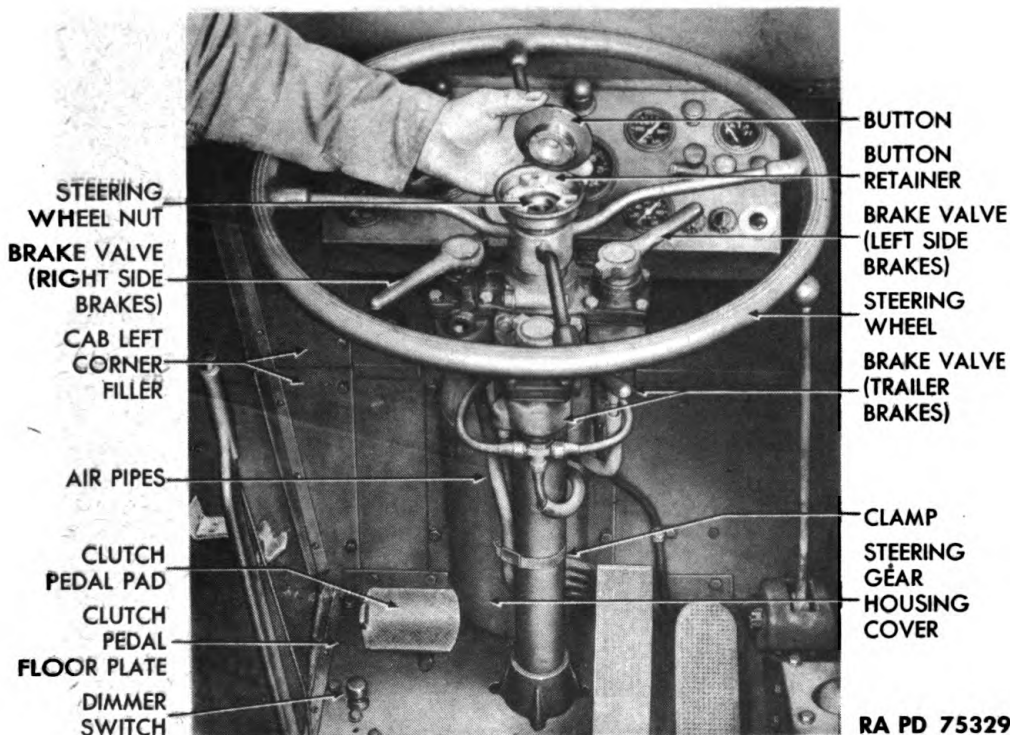

Figure 10 — Removing Steering Wheel Button
a. **Remove Steering Wheel and Air Valves (fig. 10).** Remove button in center of steering wheel by pressing down on button while simultaneously turning button in either direction. Lift button off, remove three screws that hold button retainer, and remove retainer. Remove steering wheel nut, and pull wheel up and off column. Remove two bolts, nuts, and lock washers which hold right and left air valve bracket to steering column. Remove two bolts, nuts, and lock washers that hold trailer air valve bracket to steering column. Loosen clamp that holds air pipes to steering column, and lower valves to cab floor.
b. **Remove Steering Gear Housing Cover (fig. 10).** Remove cab left corner filler by removing five cap screws and lock washers and two nuts and lock washers from two bolts. Remove steering gear housing cover by removing five cap screws and lock washers, then remove bolt, nut, and lock washers that holds clutch pedal pad on clutch pedal and remove pad.
c. **Remove Clutch Pedal Floor Plate and Steering Gear Bottom Cover** (figs. 10 and 11). Remove five cap screws and lock washers that hold clutch pedal floor plate to floor, and remove two cap screws that hold dimmer switch in place. Lift floor plate off floor and over clutch pedal. Remove bolts, nuts, and lock washers that hold steering gear bottom cover on frame and remove cover.
e. **Install Housing Cover and Cab Left Corner Filler (fig. 10).** Install steering gear housing cover and fasten with five cap screws and lock washers. Fasten cab left corner filler by installing five cap screws and lock washers, also two nuts and lock washers.
f. **Install Air Pipes and Steering Wheel (fig. 10).** Install air pipes under clamp on steering column and tighten clamp. Connect trailer air valve to steering column with two bolts, nuts, and lock washers. Install steering wheel, and fasten with steering wheel nut. Install button retainer, and fasten with three screws. Install button.